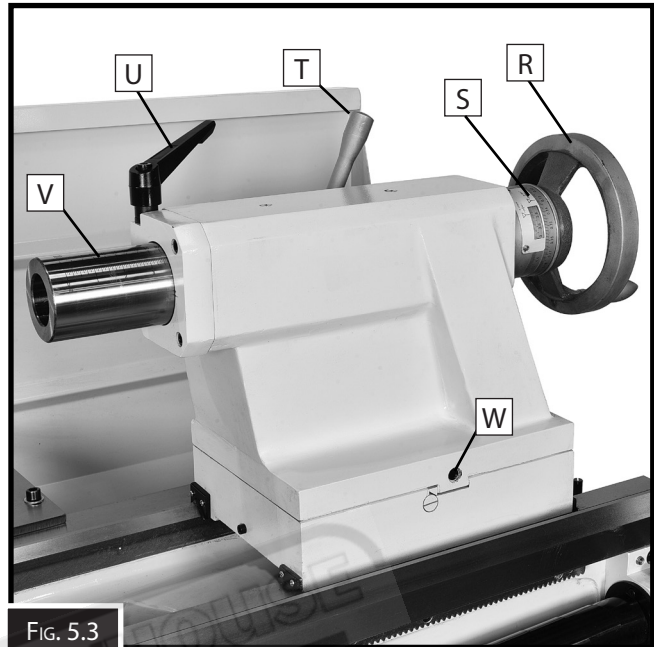
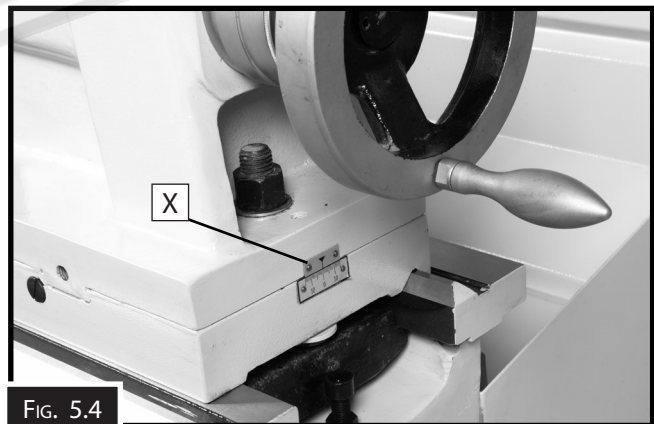

FIG. 5.3
FIG. 5.4
### TAILSTOCK (Fig. 5.3)
- X. Offset Scale:** Indicates the relative distance of tailstock offset from the spindle centerline. (Fig. 5.4)
The tailstock is typically used to support long workpieces by means of a live or dead center. It can also be used to hold a drill or chuck to drill holes in the center of the end of a part. Custom arbors and tapers can also be cut on your lathe by using the offset tailstock adjustment screws (W in Fig. 5.3)
**Note:** The marks on the indicator on the end of the tailstock (Fig. 5.4) are only a guide. For a precise offset, use a dial indicator to check while adjusting the screws that are located on both sides of the tailstock. (W in Fig. 5.3)
(See Fig. 5.3 for adjustment screws)